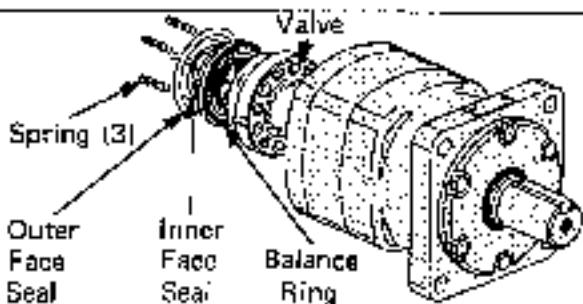

Fig. 2.3.6e
5. Remove the three balance springs, balance ring and valve (fig. 2.3.6e). Remove both the inner and outer face seal from the balance ring.